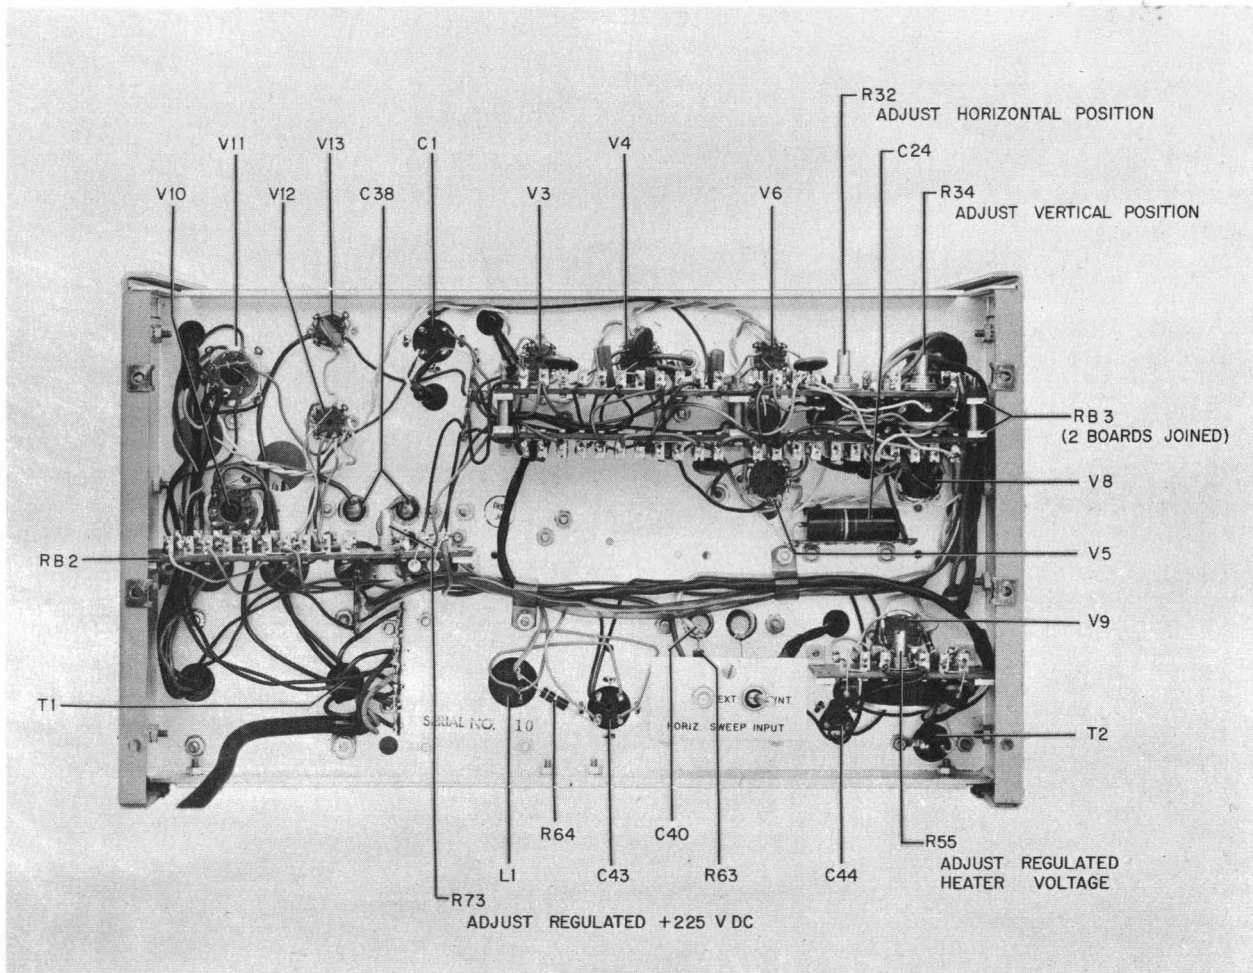

Fig. 18. Model 540A Transfer Oscillator, Rear View, Cabinet and Back Plate Removed to show Locations of Adjustments and Components
The two adjustable voltages are set by screwdriver adjusted potentiometers located on the rear chassis (see Figure 18). To adjust the regulated +225 volts proceed as follows:
- a. Connect an average responding a-c voltmeter which is calibrated in terms of rms of a sine-wave, such as an  $\phi$  400D, to terminals 4 and 6 of transformer T2 (see Figure 18). The meter should read 6 volts, which is equal to 5.4 volts rms. Note: If a peak responding meter, such as a vtvm with a diode probe is used, a spurious reading will probably be obtained due to spikes, etc., in the square-wave signal. This type of instrument should be avoided. An accurately calibrated multimeter with full wave rectifier for a-c measurements is also suitable, as this type of instrument is average responding. If necessary adjust potentiometer R55 to obtain a reading of 6 volts.
The trace on the front panel oscilloscope is adjusted to center by horizontal positioning control R32 and vertical positioning control R34 (see Figure 18.)